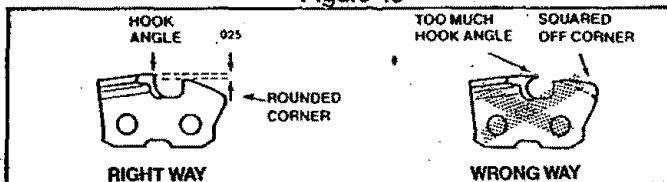

Figure 44
- c.) Maintain rounded front corner of depth gauge with a flat file. Figure 44.